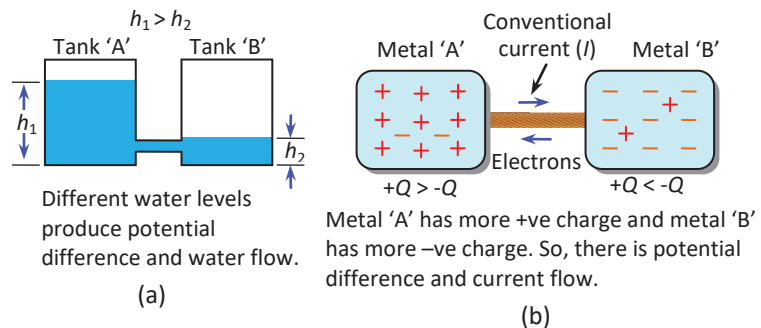
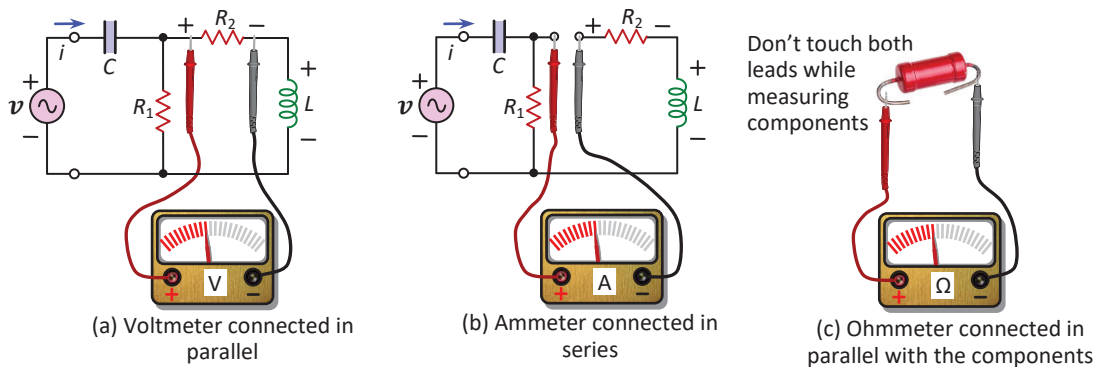

Fig.1-3: Concept of potential (a) Mechanical potential, and (b) Electrical potential
Fig.1-21: Meter connection methods: (a) Voltage measurement, (b) Current measurement, and (c) Components measurement
But as shown in Fig.1-3(a), the water level in tank 'A' is higher than that in tank 'B'. So, there will have a mechanical potential difference, and hence, water will flow from tank 'A' to tank 'B' (higher potential to lower potential). Similarly, by any mechanism, if the positive charges and negative charges of metal 'A' and 'B' of Fig.1-3(b) are separated, there exists a potential difference. As shown in Fig.1-3(b), metal 'A' is at higher potential (higher positive charges) compared to metal 'B'. Therefore, positive charges will flow from metal 'A' to metal 'B' (actually electrons flow in opposite direction).
Potential difference tells us how much electrical energy is available to push electric charges through a circuit. The unit to measure electric potential difference is volt (V). Electric potential difference is also referred to as simply **voltage**. Potential difference (or voltage) is measured by an instrument called **Voltmeter**. It is always connected in parallel to the points where potential difference is to be measured as given in Fig.1-21(a).
As shown in Fig.1-3(a), due to the potential difference between tank 'A' and 'B',
water will flow through the pipe connecting them. Similarly, due to the potential difference between metals 'A' and 'B', electric charge will flow from 'A' to 'B'. As positive charge cannot move, electrons will flow from metal 'B' to metal 'A' [Fig.1-3(b)]. The flow of charge will stop when the potential difference is zero. This flow of charge is called the **current**. Actually the rate at which the electric charges flow through a device is called current. The unit used to measure the current is called **Ampere** (A). 1 ampere is equivalent to a flow of 1 Coulomb per second through the cross-section of a conductor or device. Although current was originally thought to be a flow of positive charge, we now know that in most cases it is the flow of electrons. The direction of conventional current is just opposite to the direction of electrons flow. The instrument used to measure the current is **ammeter**. Unlike the voltmeter, ammeter is connected in series, so that, the full current can flow through the meter as shown in Fig.1-21(b).
Measuring process of different parameters and elements are shown in Fig.1-21. To measure voltage the voltmeter has to be connected across two points or across the components [Fig.1-21(a)]. To measure current the meter has to be connected in series, that is, the current measuring point has to be opened and then connect the ammeter [Fig.1-21(b)]. Moreover, to measure resistance, capacitance, inductance etc. the meter has to be connected in parallel to those components [as shown in Fig.1-21(c)]. As human body has a finite resistance, we should not hold the components' both terminals by hand (holding one terminal is OK) while measuring